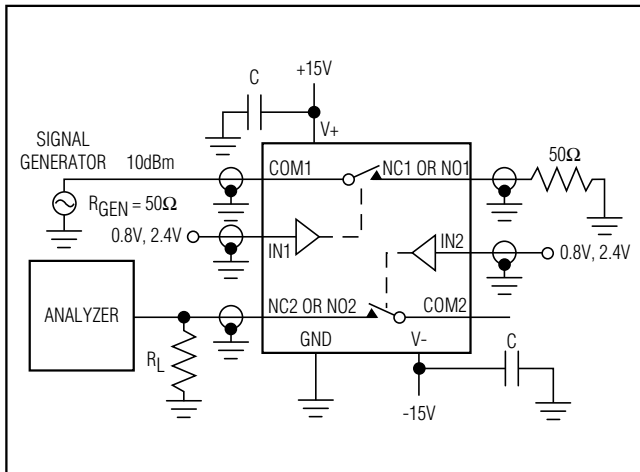

Figure 3. Crosstalk Test Circuit (repeat for channels 3 and 4)
**Note 5:** See Figure 3. Off Isolation =  $20 \log_{10} \left( \frac{V_{COM}}{V_{NC\_} \text{ or } V_{NO\_}} \right)$ , VCOM = output, VNC\_ or VNO\_ = input to off switch.